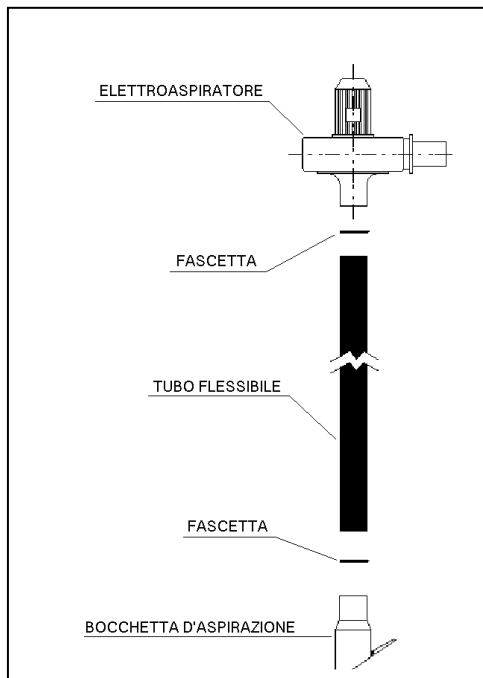

fig. 2 – Installation with flexible hose
a) The extractor is suitable to extract and expel fumes or gases only through a duct and/or flexible piping (fig. 2,3).